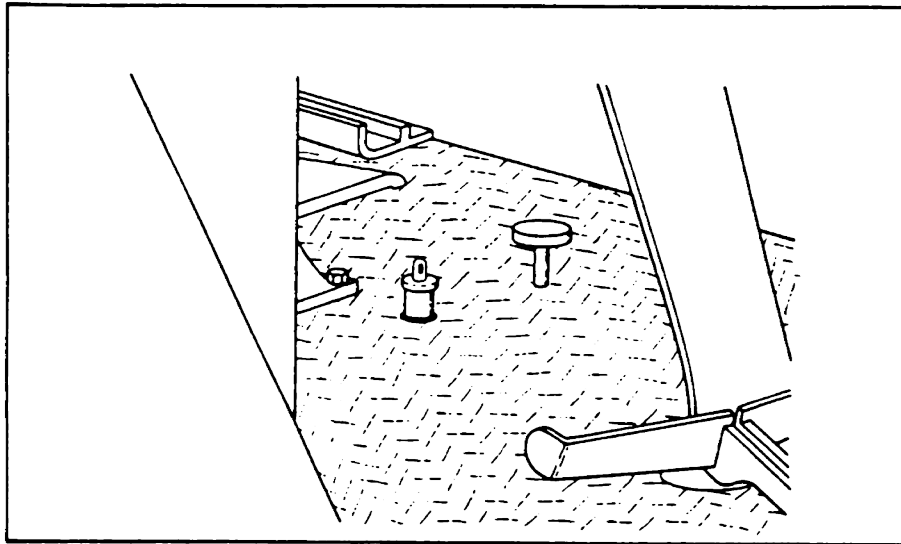

FIGURE 59. TRANSMISSION DIPSTICK AND FILLER CAP
Check the oil level. The hydraulic reservoir for the steering and other hydraulic components is incorporated in the transmission of the JD410 tractor. To check the hydraulic fluid level, start the engine and run it two or three minutes to fill all circuits. Then check the oil level (Figure 59). The tractor must be on level ground and the backhoe in transport position. Put the range shift lever in park (P), put the gear-shift lever in neutral, and engage the clutch. The fluid level should be between the high and low marks on the dipstick, preferably 1/4 inch below the high mark.